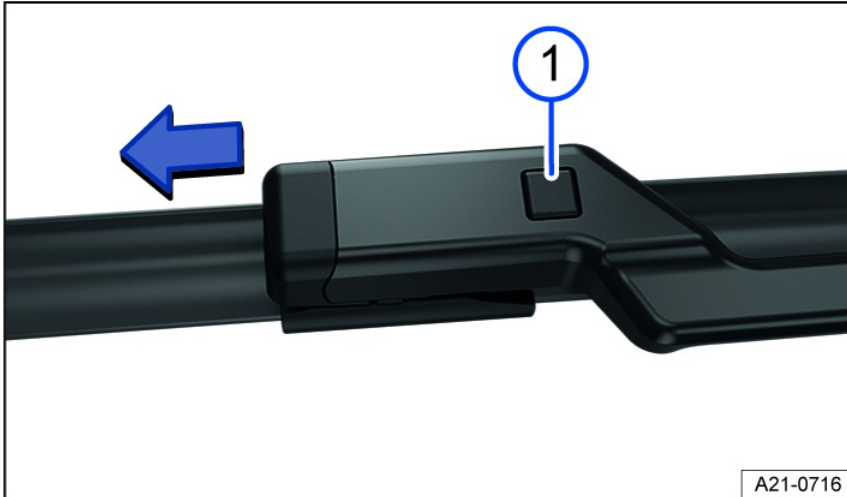

Fig. 152 Changing the windshield wiper blades.
3. Press and hold the release button and remove the wiper blade at the same time in the direction of the arrow *fig. 152* ⓘ.